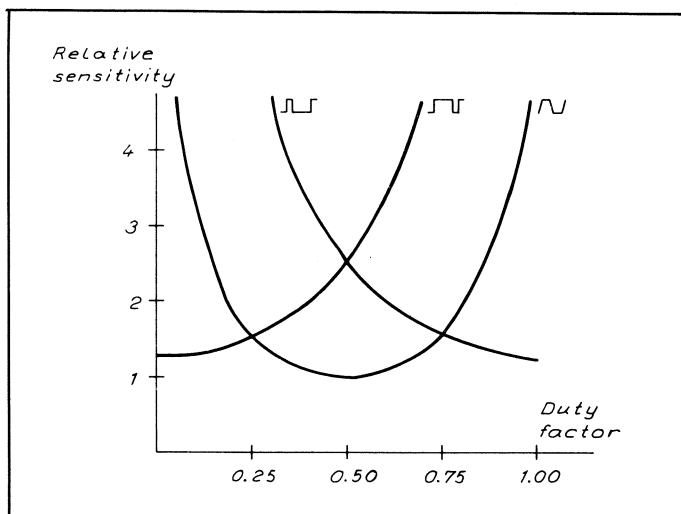

Fig.3.5. The relationship between required input voltage and duty factor
Even with non-symmetrical signals, it is possible to obtain triggering by increasing the input sensitivity, instead of offsetting the trigger level. However, this is NOT RECOMMENDED, since this gives a poor noise immunity. The relationship between required input voltage and duty factor is illustrated in Fig.3.5.
2. Check which waveform select push-button causes triggering. Depending on input amplitude and duty factor this might occur with one, two or all three waveform select push-buttons, see Fig.3.5.